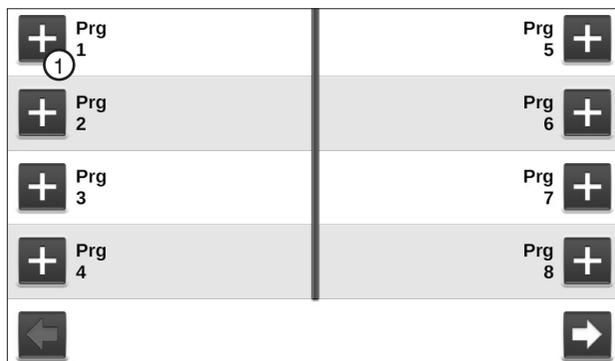

Figure 150-2 Sector Program Screen
1. Push **Menu**, **Programs** and **Sector Programs** to view the Sector Programs screen. Refer to Figure 150-2.